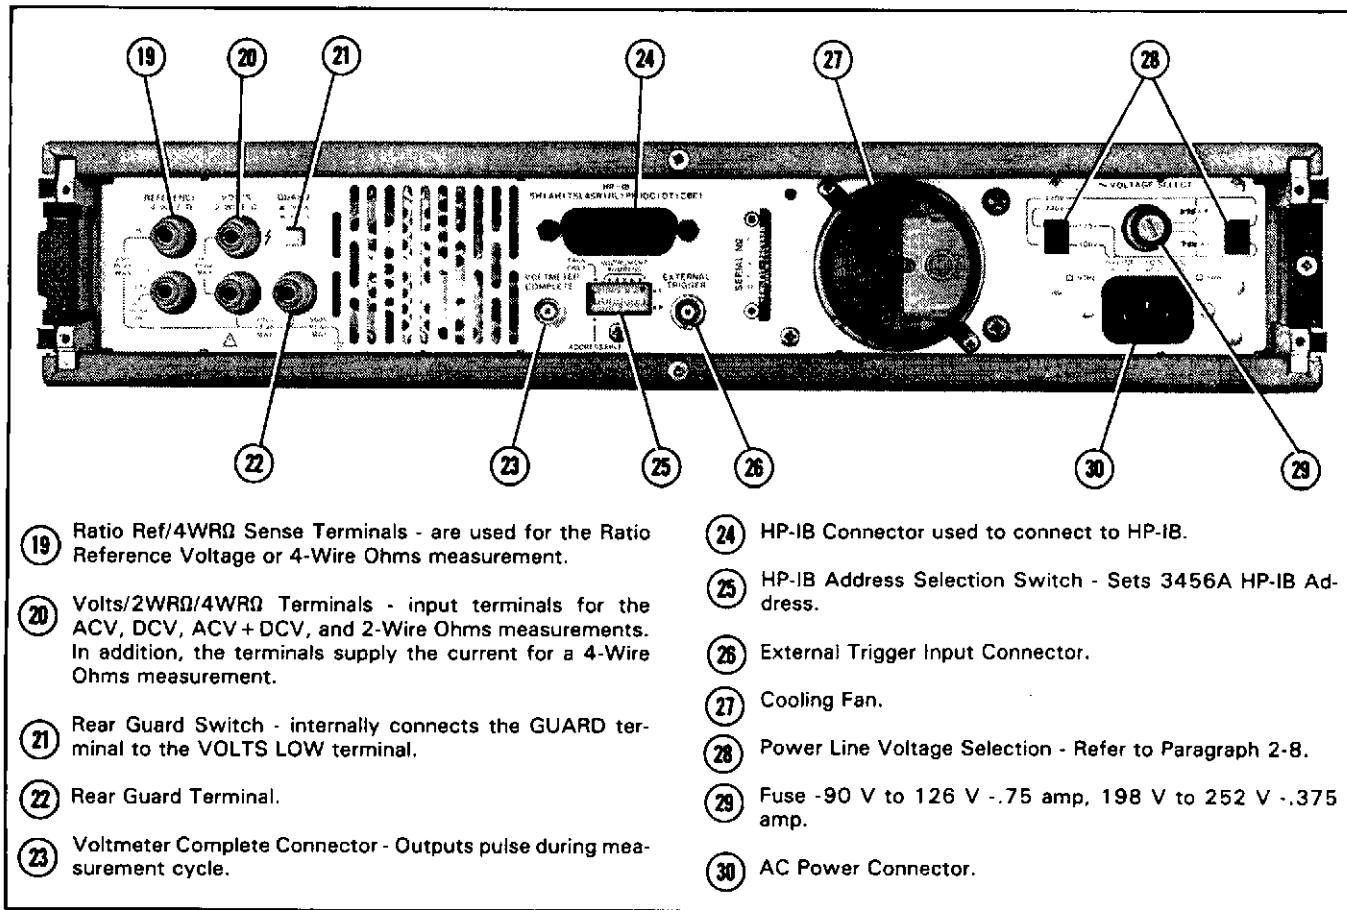
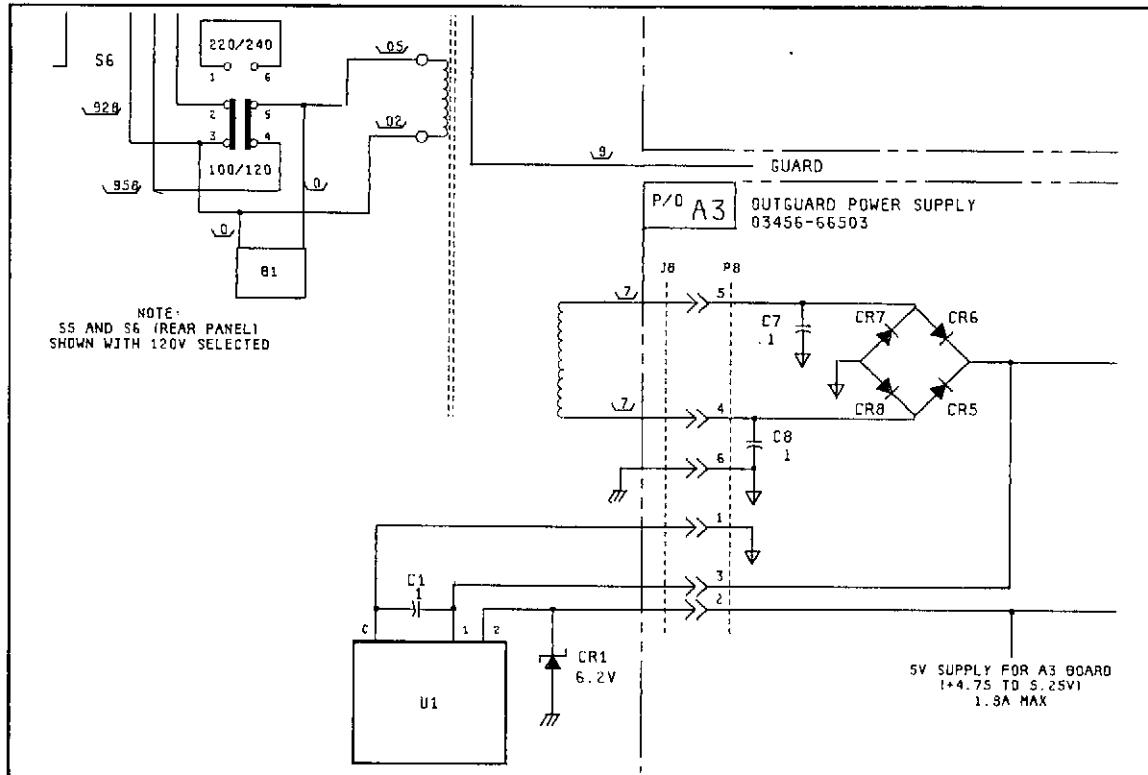

Figure 7-6. Change #10 in Figure 3-1
Figure 7-7. Change #10 on Schematic 14
a. Page 3-3, Figure 3-1 (Front and Rear Panel Features (Cont'd)). Replace Figure 3-1 with Figure 7-6.
b. Page 8-93/8-94, Figure 8-75 (Schematic 14, Power Supply Schematic). Change bridge rectifier A3CR5 to diode rectifiers A3CR5 through A3CR8, as shown in Figure 7-6. Add fan B1, and change fuse F1 to 750MA and 375MA, as shown in Figure 7-7.